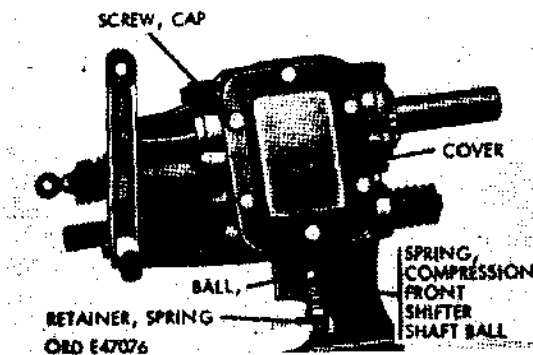

Figure 286. Removing front shifter shaft ball and spring retainer
(1) Remove front shifter shaft.
- (a) Remove six cap screws and lockwashers from cover (fig. 286). Remove cover and cover gasket and discard gasket. Remove spring retainer, front shifter-shaft-ball compression spring, and ball from case.